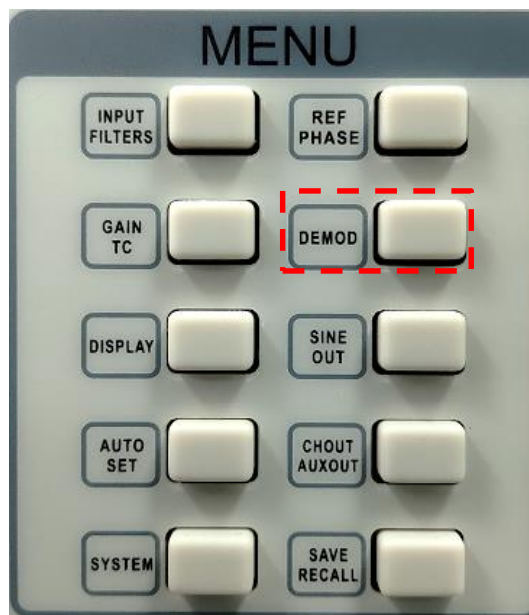

Fig.96 [DEMODO] MENU
4. Press [DEMODO] button to enter the submenu, as is shown in Fig.96.